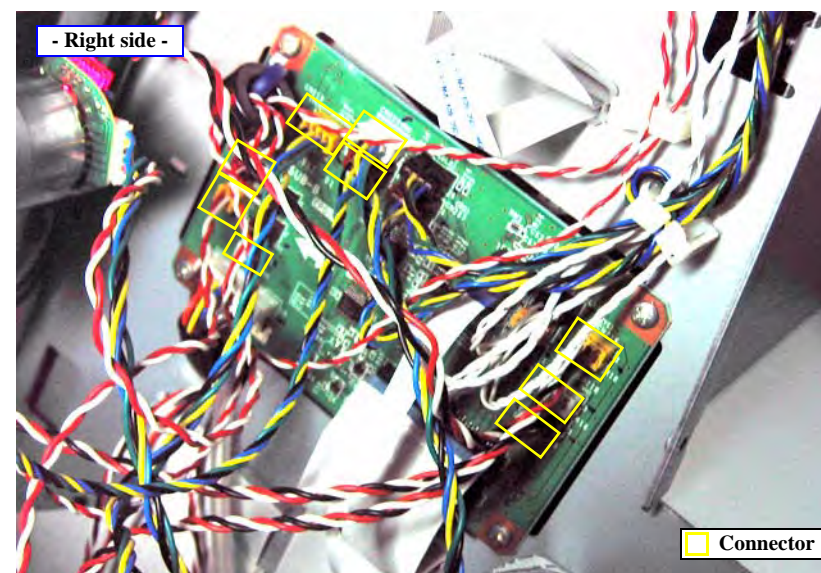

Figure 4-107. Disconnecting the connectors
8. Disconnect the connectors (CN213, CN214, CN216, CN217, CN218, CN221, CN222, CN223, CN224) on the Sub Board Assy; B shown in Figure 4-107. (See Figure 4-53 for the connector locations.)